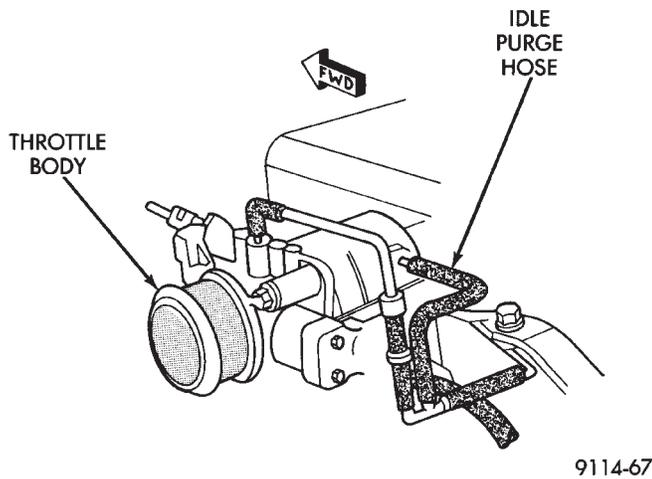

Fig. 9 Idle Purge Hose—3.0L
- (8) Disconnect the idle purge hose from the engine vacuum harness tee (Fig. 9).